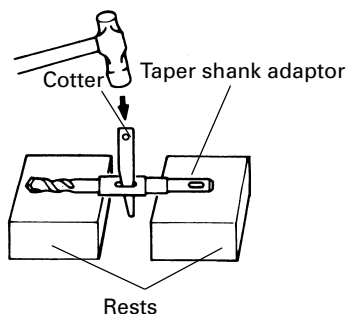

Fig. 18
- (4) To remove the drill bit (taper shank), insert the cotter into the slot of the taper shank adaptor and strike the head of the cotter with a hammer supporting on the rests. (Fig. 18)